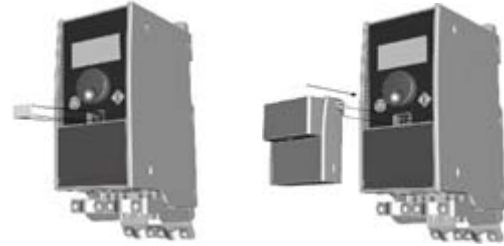

Fig. 3. Remove rubber plug and connect HVFDCMCA to the VFD
2. Remove the rubber plug covering the connector port of the VFD, see Figure 3.
3. Connect the HVFDCDMCA to the VFD, see Figure 3.